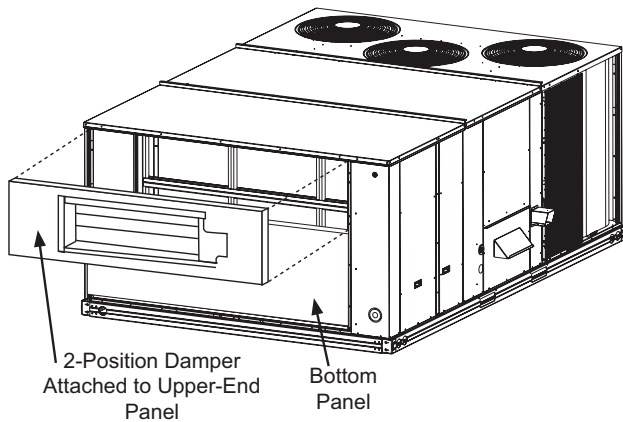

Fig. 2 — Upper End Panel with Damper Attached
3. Lift the provided upper-end panel with damper attached in place over the top of the bottom panel. (See Fig. 2.) Do not secure in place yet.